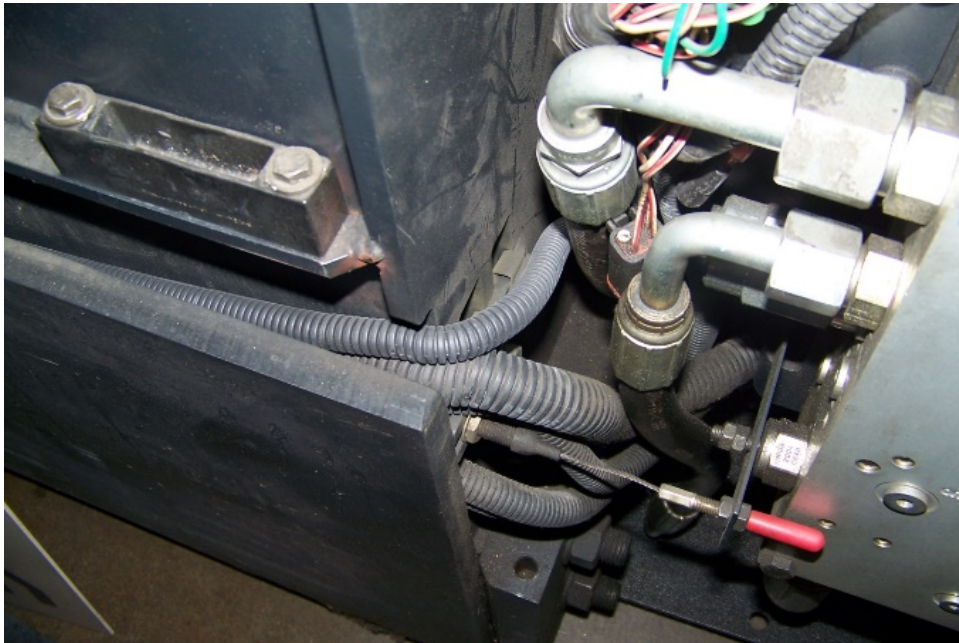

Figure 8 - Cable channel
- c. Connect the Negative wire (55116) to Negative bus bar [Figure 8]